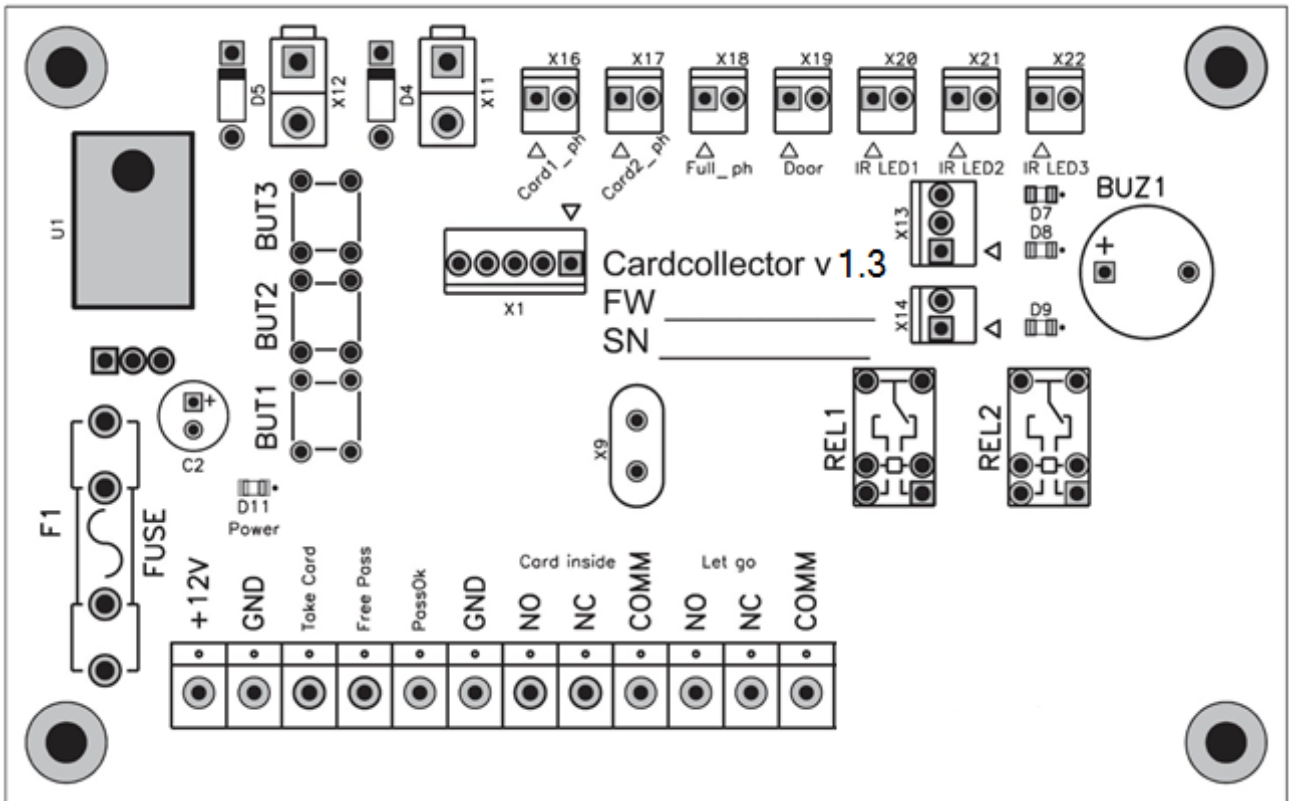

Fig. 2. Layout of board
- Press and hold BUT1 button on the board of the card collector (Fig. 2). When the button is pressed shutter is open forcedly and a continuous audio signal is performed;